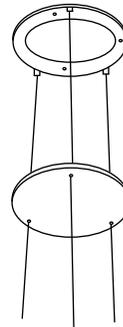

Fig 7
5. Thread the 3 strings through the ceiling bracket cover (Fig 7).